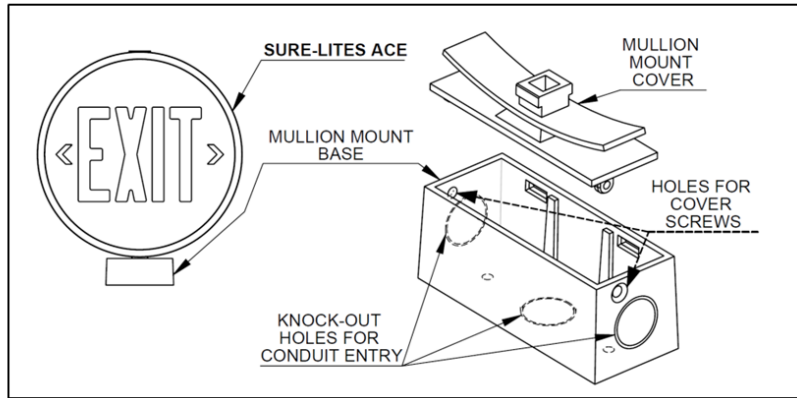
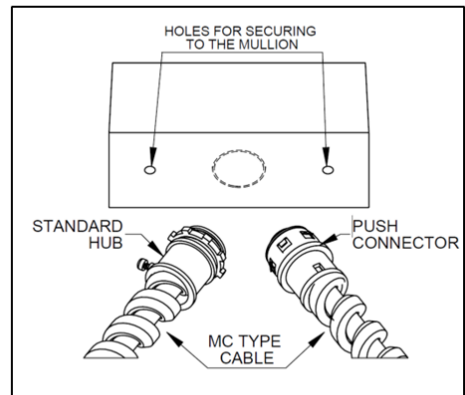

FIGURE 3
FIGURE 4
2. Bring power through the mullion to the fixture location using MC type cable. If using the bottom conduit entry hole on the ACE Mullion Base (See Figure 3), a standard threaded conduit hub can be used, however, a push-in connector is highly recommended due to the smaller hole it requires in the mullion mounting surface. (See Figure 4)
6. Knock-out the appropriate entry hole on the ACE Mullion Base. (See Figure 3) Feed your incoming AC power line through the hole and secure your conduit or cable to the ACE Mullion Base.
7. Using self-drilling screws, screw through the holes located in the bottom of the ACE Mullion Base and into the mullion surface. (See Figure 4) Some configurations of the ACE can weigh up to seven (7) pounds. Ensure your mounting location is rated to support the weight of the ACE and attached conduit.
8. Feed your wires through the ACE Mullion Mount Base and through the ACE Mullion Mount Cover. Insert the two arms on the bottom side of the Mullion Mount Cover into the corresponding holes on the base. Secure the cover by tilting it down to lie flush with the base, and screwing in two screws into the holes on either side of the ACE Mullion assembly. (See Figure 3)